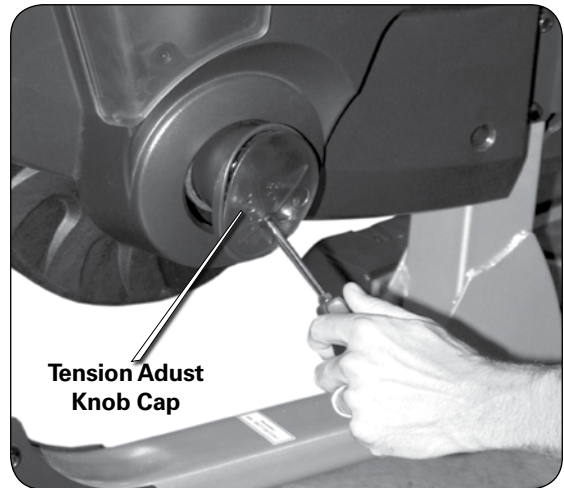

Figure 3b
- 3-2 Once the Screw is removed, use the screwdriver to gently pry the cap out of the knob (**Figure 3b**).